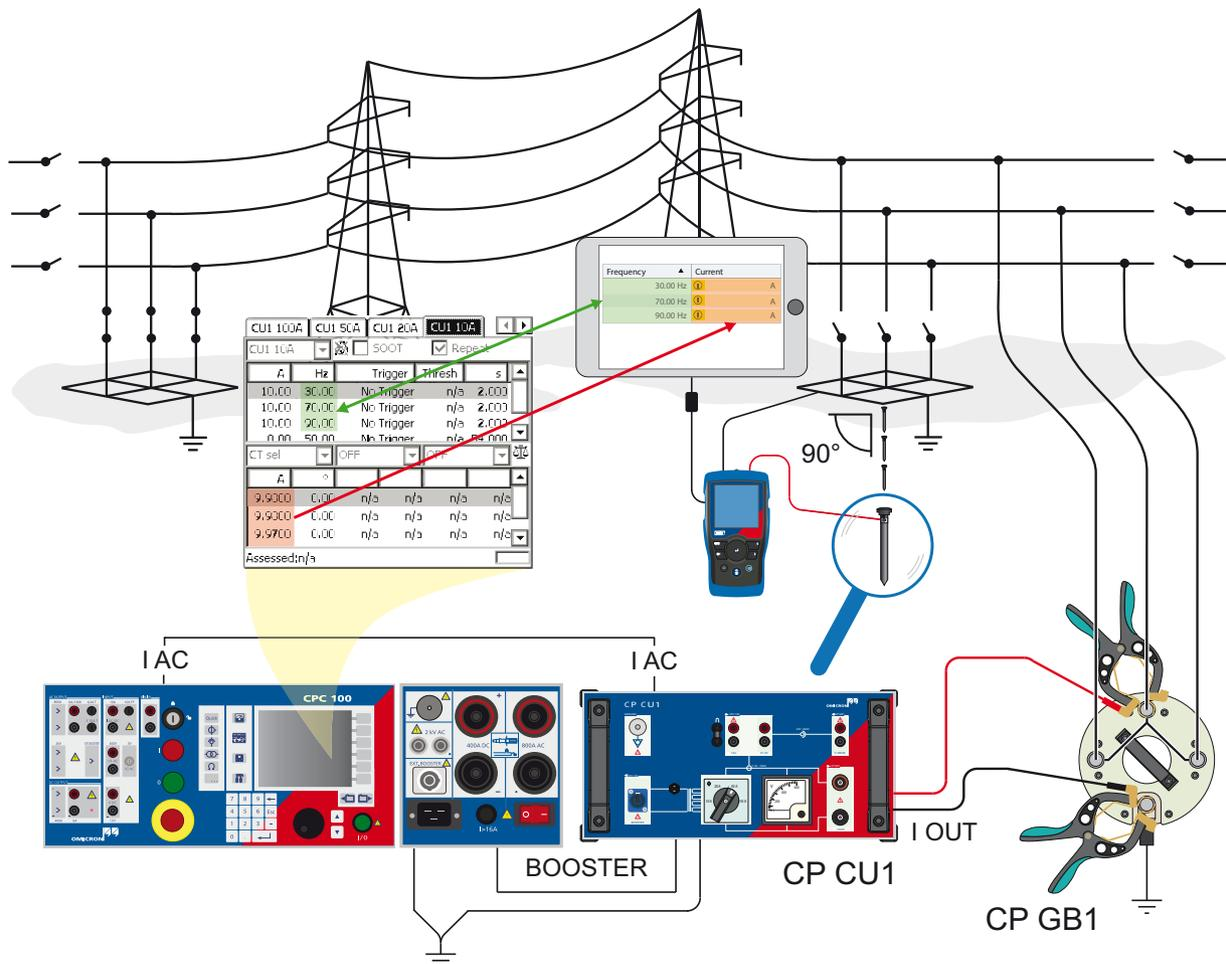

Figure 5-11: Ground impedance measurement setup when using *PTM* on a tablet
2. If criterion 3 is met, establish the measurement setup as shown in Figure 5-11 below.